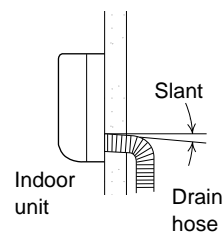

Fig. 30
- The drain hose should be slanted downward to the outdoors. (Fig. 30)